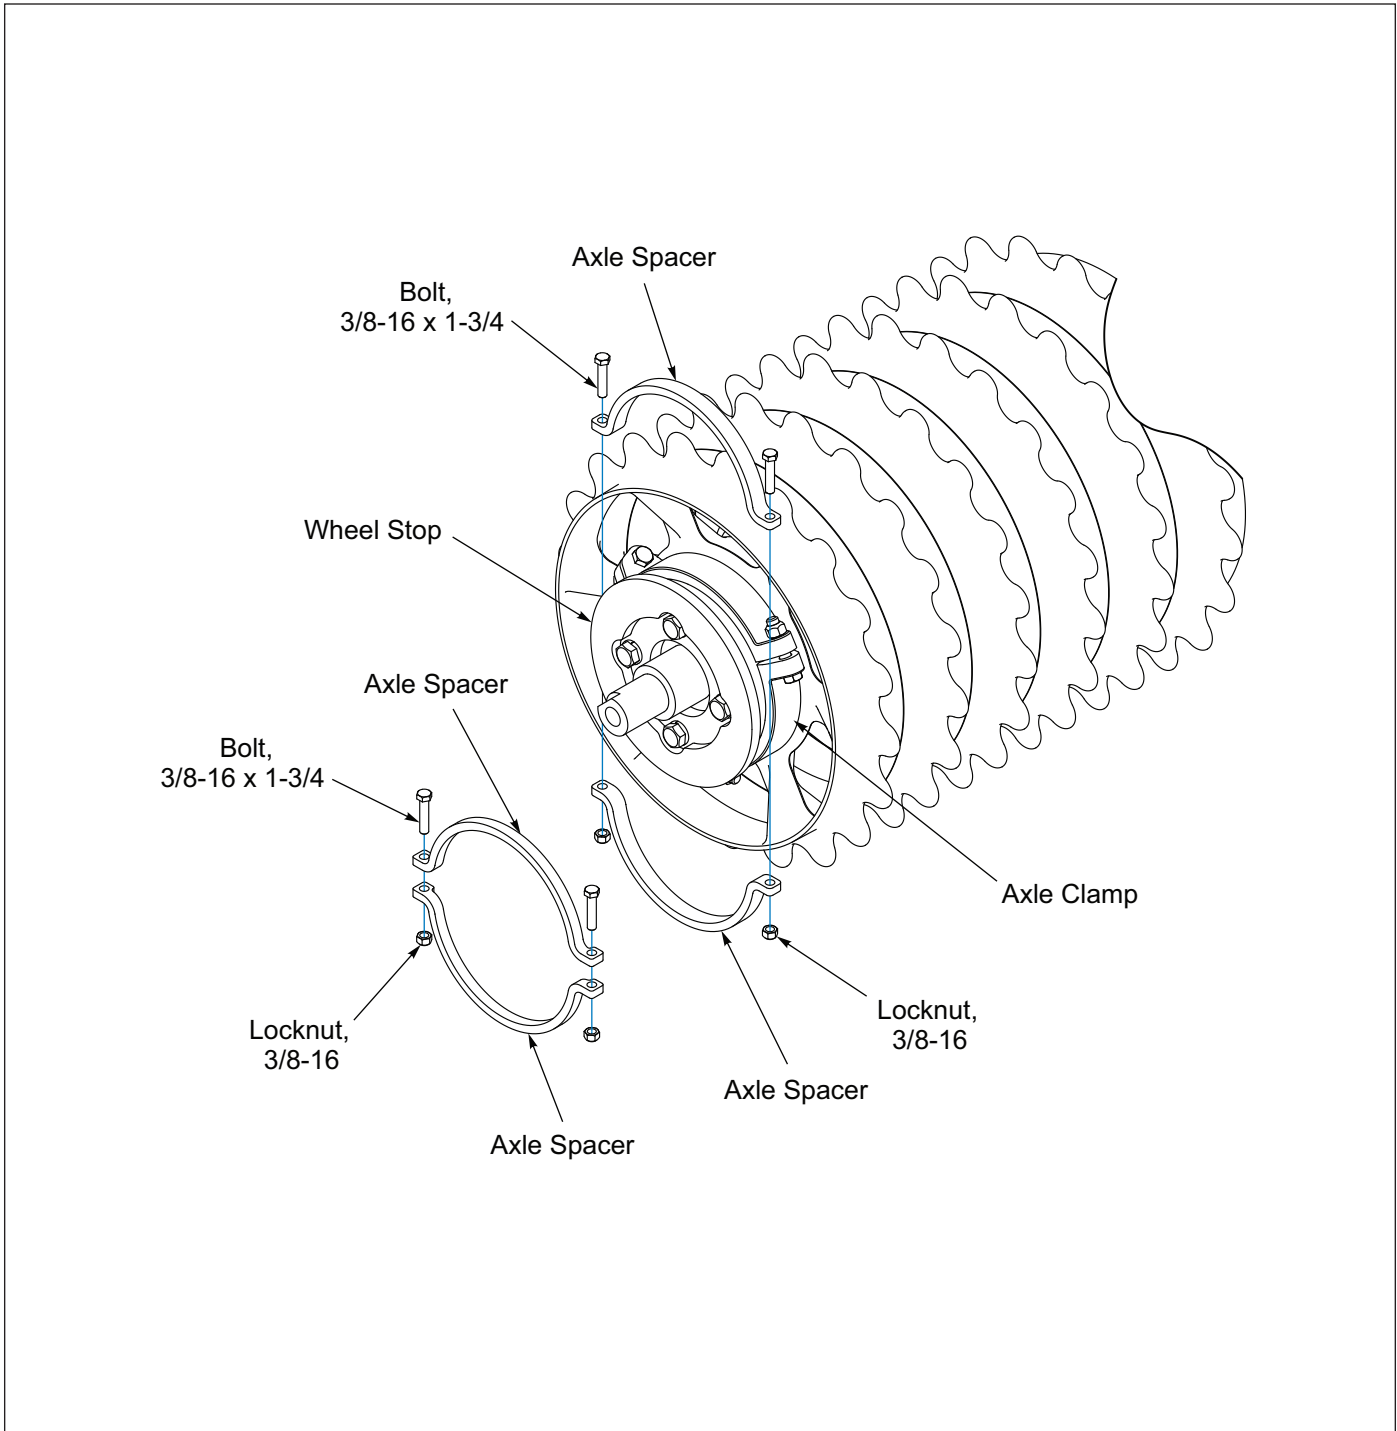

Figure 2-73: Roller Clamp Space Installation
3. If there is a gap between the Axle Clamp and the Wheel Stop, install the appropriate Clamp Spacer with 3/8-16 x 1-3/4 Bolt and Locknut. **See Figure 2-73.**